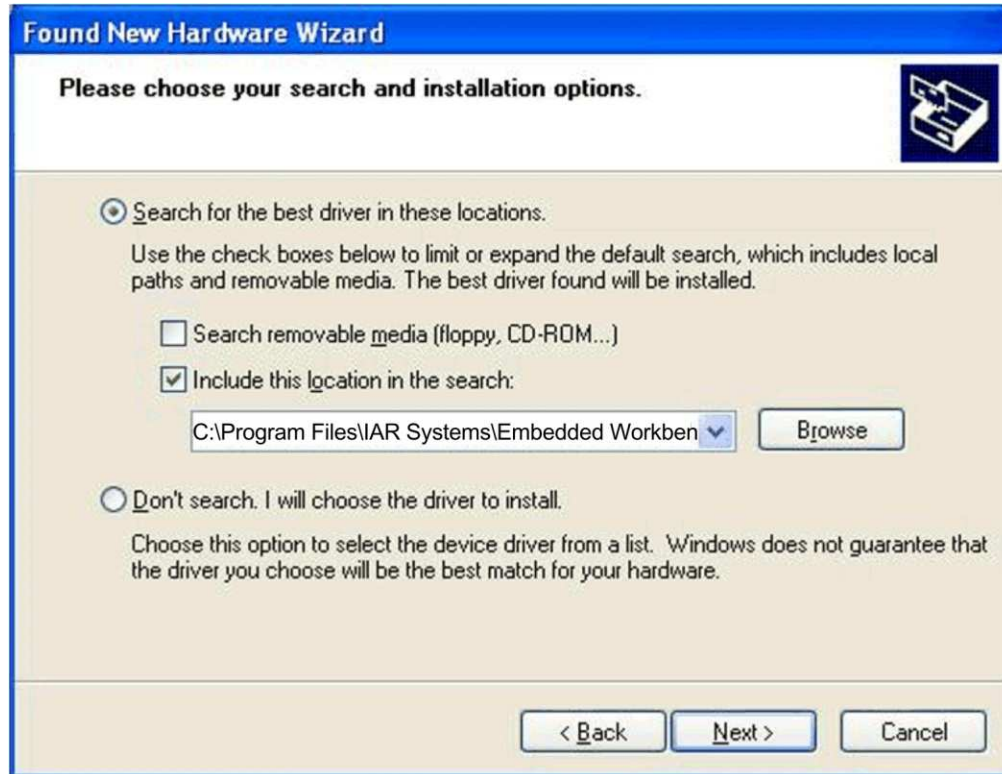

Figure C-3. Windows XP Driver Location Selection Folder
- Browse to the folder where the driver information files are located (see Figure C-3).